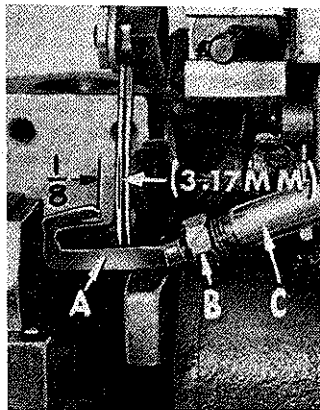

Fig. 4
At this point, insert lower spreader (A, Fig. 4) or lower looper (depending on the Style of machine) into bar (B). With the lower spreader or lower looper at the left end of its stroke, set the spreader point or looper point $1/8$ inch (3.17 mm) to the left of left needle centerline using looper gauge No. 21225 G- $1/8$. Do not have lower spreader or lower looper deflecting the needles. Tighten nut (C).